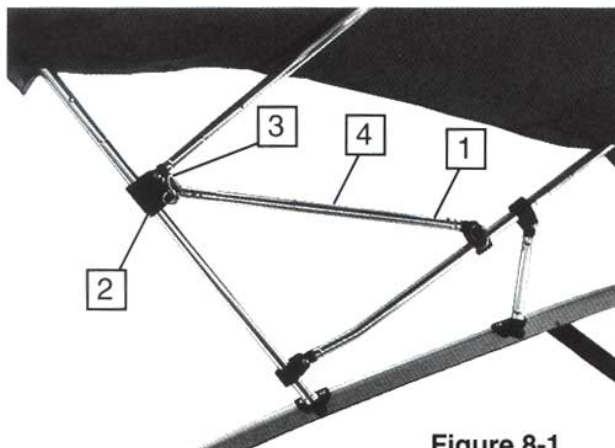

Figure 8-1
The bimini top is attached with two thumbscrews on each side of the windshield. The center brace (item 1, Figure 8-1) is extended to meet the aft brace (item 2) and locked in position with a pin (item 3). The center brace is then extended until the lock button (item 4) engages.